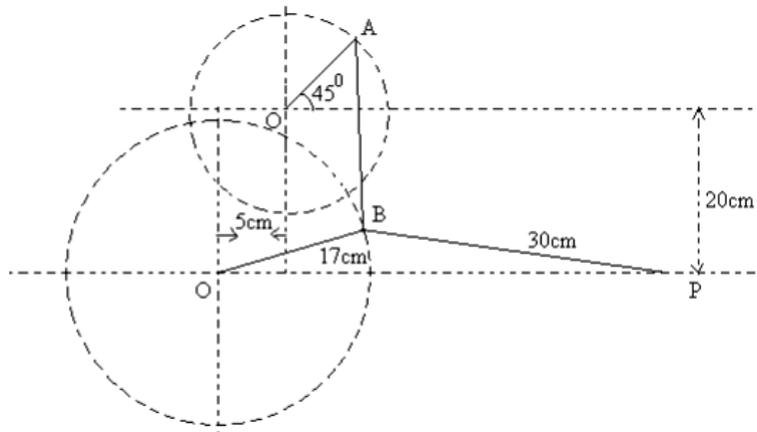

Figure 5
4. For the configuration of the mechanism shown in below Figure 5, Determine the velocity and acceleration of P and the angular velocity and angular acceleration of BP when OA is rotating at 180rpm with an angular acceleration of  $50 \text{radian/sec}^2$ . P is constrained to move in horizontal direction [16]